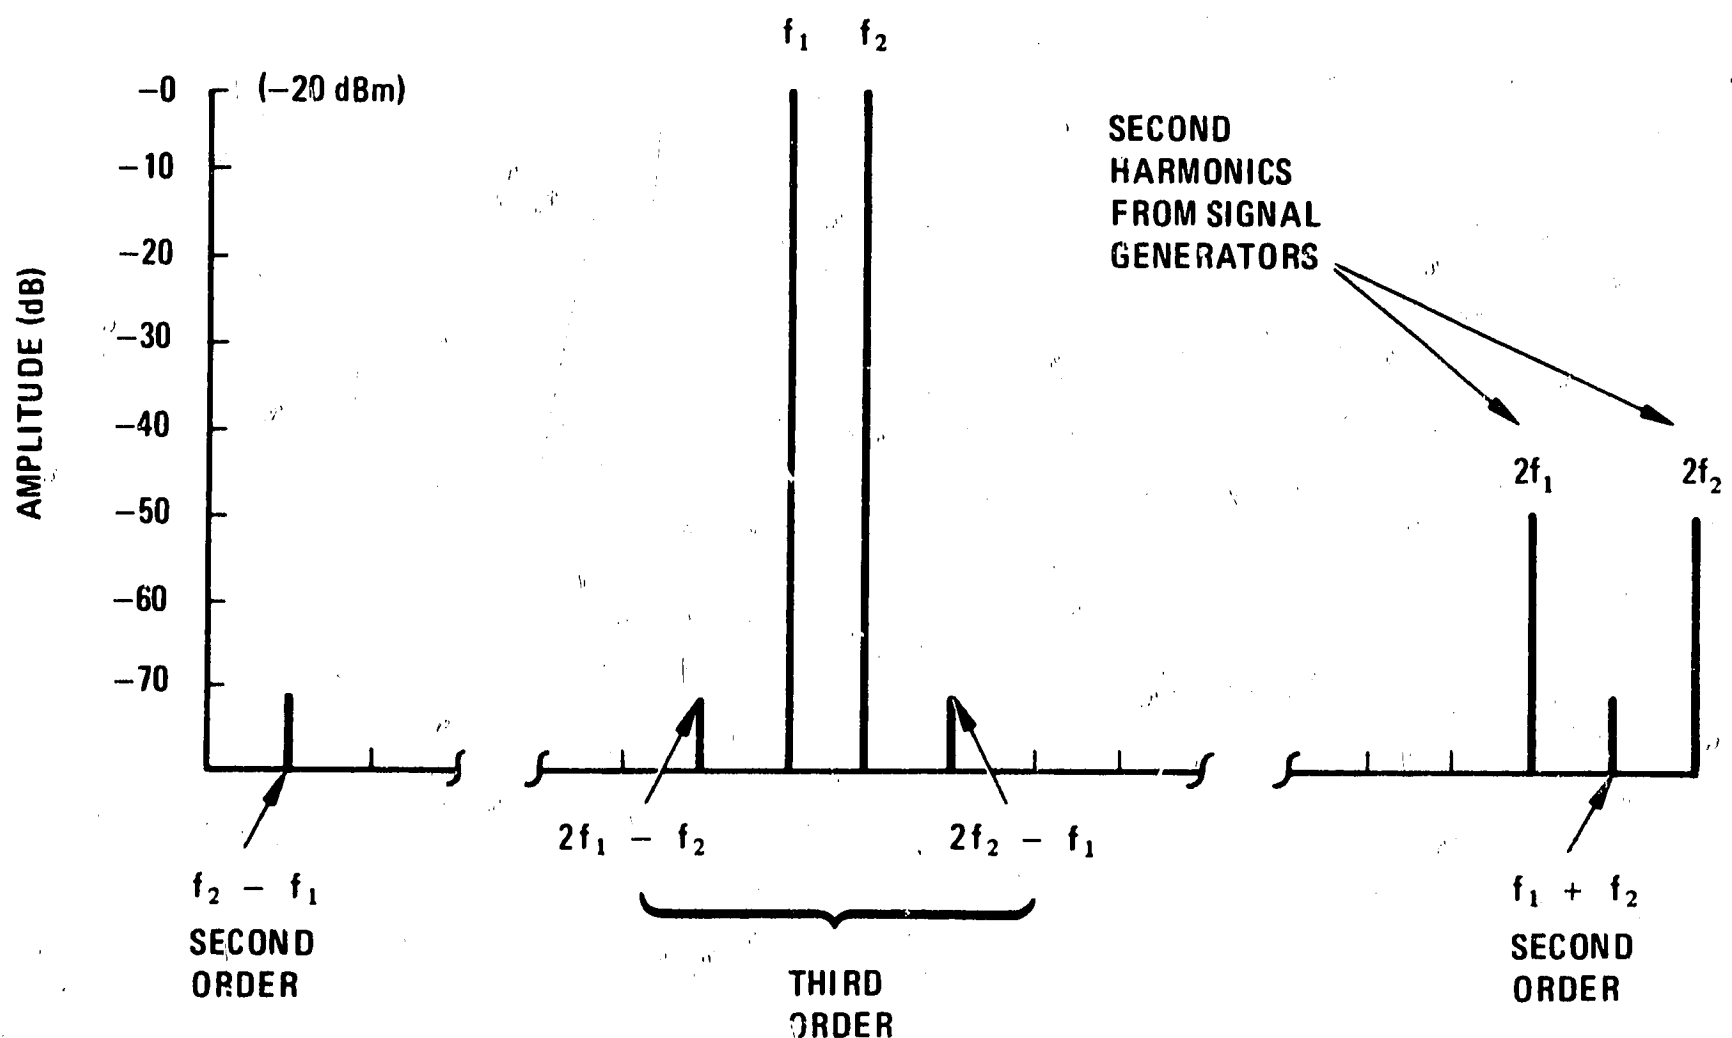

Figure 4-16. Intermodulation Distortion Products
17. Reduce spectrum analyzer RESOLUTION BW control to 3 kHz and check for third order intermodulation distortion products at approximately 3 divisions from center graticule line (both sides of center line). They should be more than 70 dB below both input signals (-90 dBm on spectrum analyzer display). See Figure 4-16.
18. Set 8557A TUNING control to approximately 1 MHz. Tune second order intermodulation distortion products ($f_2 - f_1$) at 1 MHz to center screen. Change OPTIMUM INPUT control to -20, REFERENCE LEVEL dBm control to -20, and reduce the output of both signal generators by 3 dB. Second order intermodulation distortion product should be more than 70 dB below the total applied signal, -90 dBm on the spectrum analyzer display. See Figure 4-16. Signal should be more than 70 dB below the input signals (-90 dBm on the spectrum analyzer display).
20. Check for second order intermodulation distortion product ($f_1 + f_2$) near center of display (between $2f_1$ and $2f_2$ signals). See Figure 4-16. Signal should be more than 70 dB below the input signals (-90 dBm on spectrum analyzer display).
22. Adjust the output levels of both signal generators for -20 dBm displayed on the spectrum analyzer. Third order intermodulation products should be more than 70 dB below input signals. (-90 dBm on signal generator display). See Fig. 4-16.
26. Change OPTIMUM INPUT to -20, REFERENCE LEVEL dBm to -20. Reduce signal generator output by 3 dB each. Tune the 8557A to 50 kHz (2.5 divisions above LO feedthru). Check for second order intermodulation distortion product ($f_2 - f_1$) at 50 kHz. Signal should be more than 60 dB below input signals (-80 dBm on Spectrum Analyzer display). See Figure 4-16. It may be necessary to adjust VIDEO FILTER to observe the signal.
27. Set 8557A TUNING control to 1.8 MHz and check for second order intermodulation distortion product ($f_1 - f_2$) near center of display (between $2f_1$ and $2f_2$ signals). See Figure 4-16. Signal should be more than 60 dB below the input signals (-80 dBm on spectrum analyzer display).